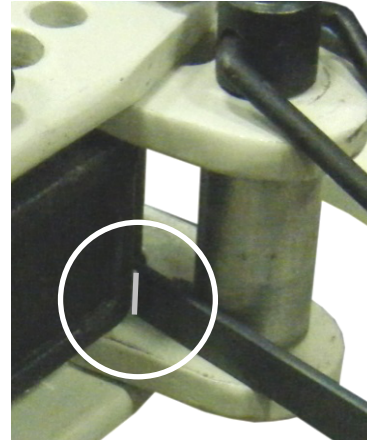

Figure 6-3
- When making sharp right angle bends, make thin clear chalk lines on the flat stock at the points where you plan to make the bends (fig. 6-3).